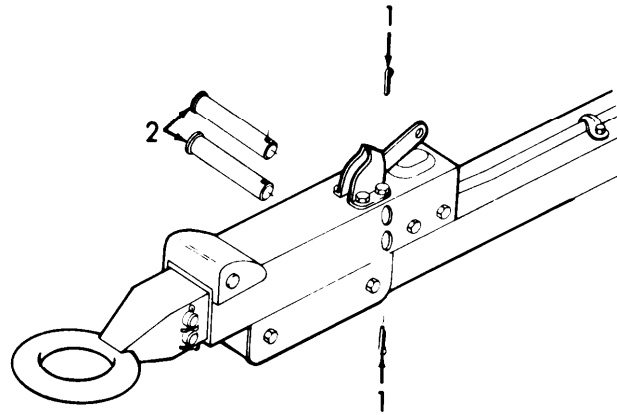

Figure 3-50. Master Pin, Removal.
- (1) Remove two cotter pins (1, Figure 3-50) from master pins (2).